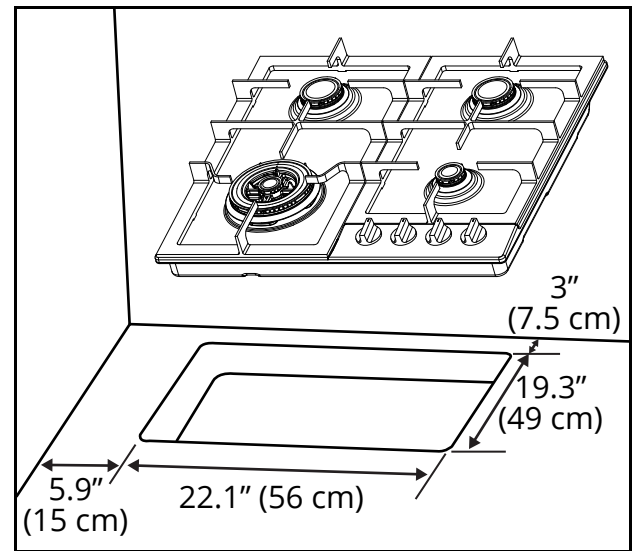

Figure 9
- 2) Cut the opening in the countertop. To ensure accuracy it is best to make a template (see Figure 9) for the opening. Make sure the sides are parallel also rear and front cuts are exactly perpendicular to the sides. Observe all minimum clearances.